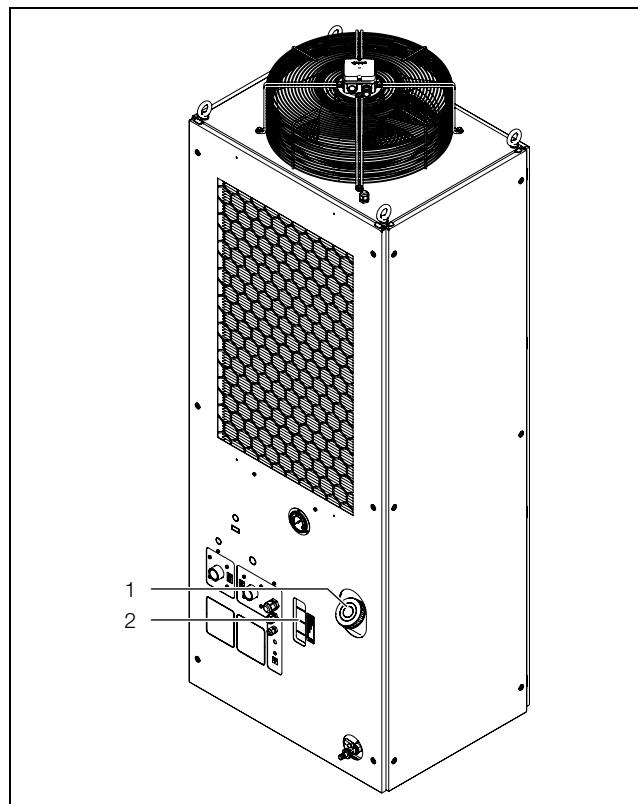

Fig. 12: Filling the cooling medium
- Fill the chiller tank with cooling medium via the fill nozzle (fig. 12, item 1).
- Check the filling level on the container through the opening in the casing (fig. 12, item 2).